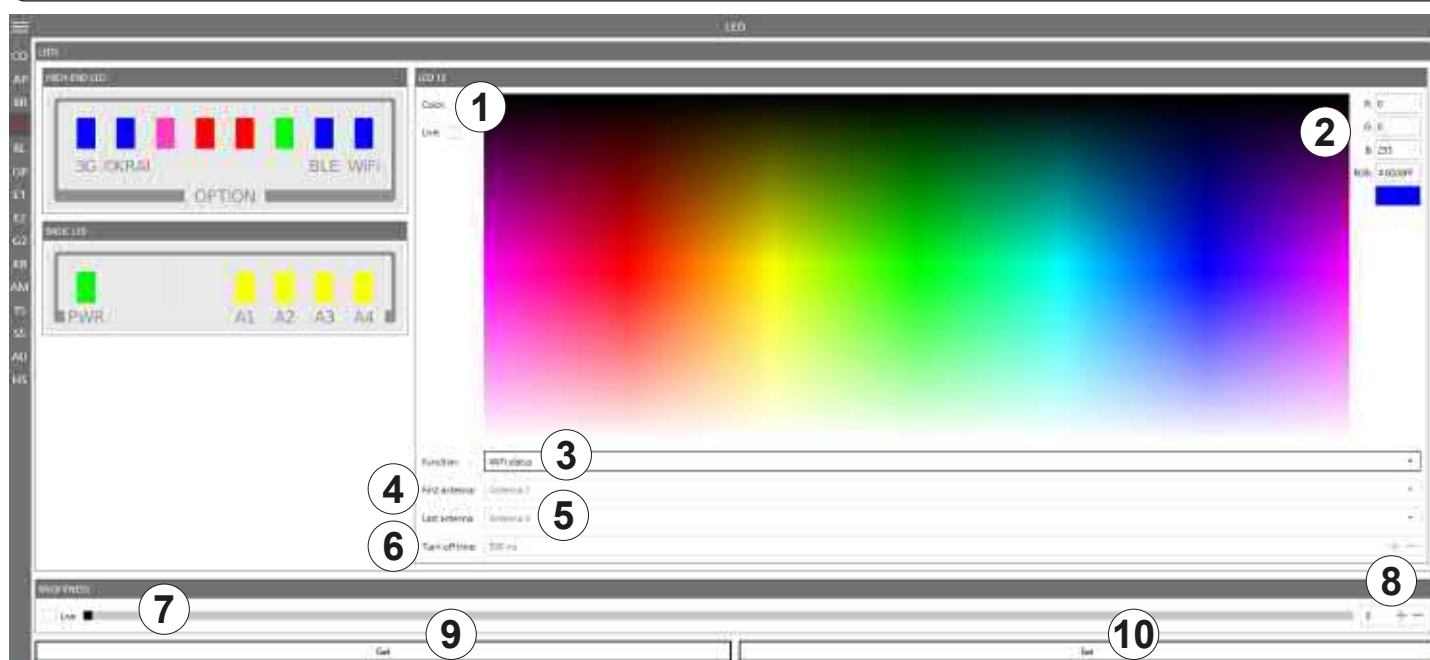

Fig. 48: LED
③	Function	selects between the functions described in Selecting Functions, p. 88
④	First antenna	the first antenna for the selected function
⑤	Last antenna	the last antenna for the selected function
⑥	Turn-off time	sets the time for how long LED is on for the selected function
⑦	Brightness (live)	changes the LED brightness for all active LEDs (between 0 (auto brightness determined by the integrated light sensor) and 100) ▶ Move the brightness position along the bar to change the brightness of the LED. ⇒ The number at ⑧ changes.
⑧		changes the LED brightness (between 0 and 100) ▶ Click + or - to change the brightness of the LED.
⑨	Get	shows the current settings for all LEDs
⑩	Set	sets the new settings for all LEDs for which the settings have been altered
► Click on the arrow (③ in Fig. 48, p. 87) to select between the following functions: